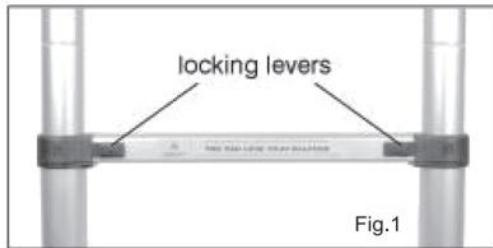

Fig.1
- Each step on the ladder has a pair of locking mechanisms. These consist of spring-loaded steel pins that automatically lock into place as the ladder is extended. Each mechanism is connected to a locking lever visible on the outside (see Fig.1).